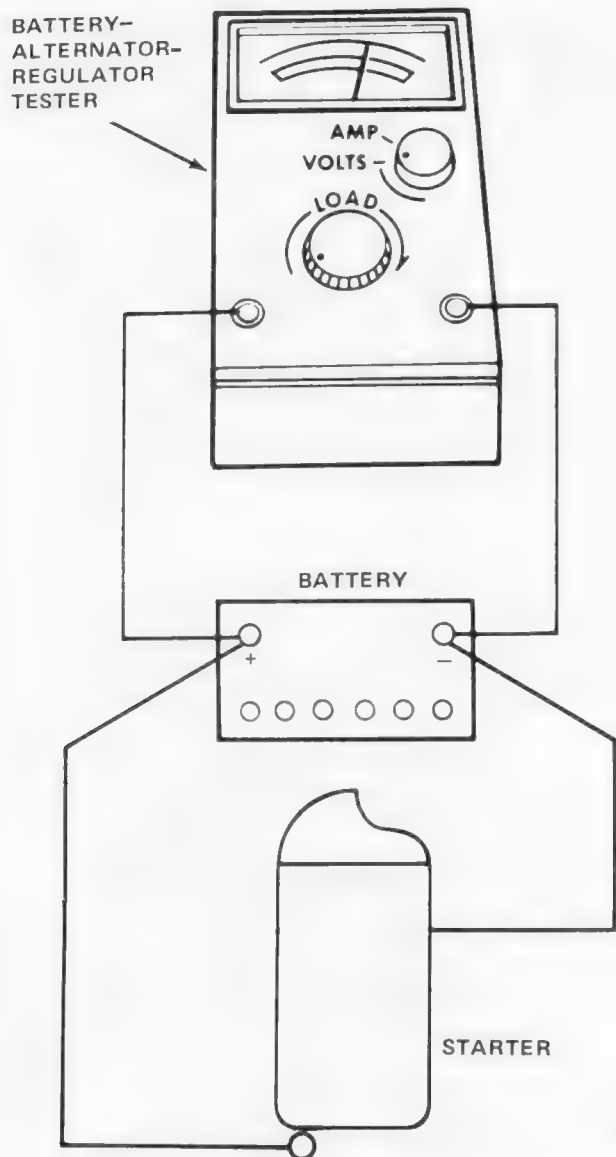

Fig. 1F-5 Starter Motor No-Load Test
(1) Insert piece of paper between contact points to act as insulator (fig. 1F-6).